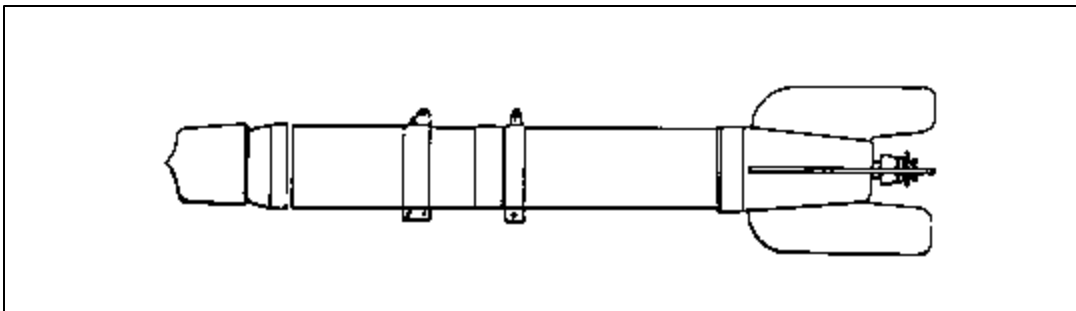

Figure 18. Former Soviet republic rocket-assisted armor piercing bomb.
- (3) Rocket-assisted armor-piercing bombs use a rocket motor for deep penetration of bunkers, runways and other installations. The U.S. has never made a bomb of this type; however, seven foreign countries have used them. The former Soviet republics have several bombs of this type, one of which is shown in Figure 18.